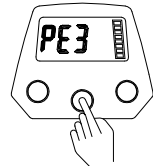

Figure 11-2-2
2. Press the "MENU" for 2 seconds, and the interface will appear as shown in Figure 11-2-2